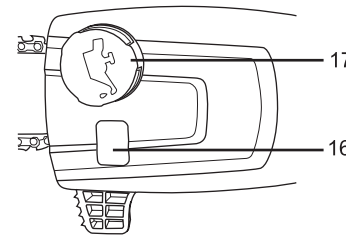

Fig. 13
1. Place the product on a stable, level surface with the oil tank cap (17) facing upward. We recommend laying a non-flammable sheet under the product.
2. Unscrew and remove the oil tank cap (17) (Fig. 13).
4. Check the oil level window (16) prior to start-up and regularly during operation. Refill oil when the oil level is close to the bottom of the oil level window (16) (Fig. 13).
5. Wipe up spilled lubricant with a soft cloth and refit the oil tank cap (17).